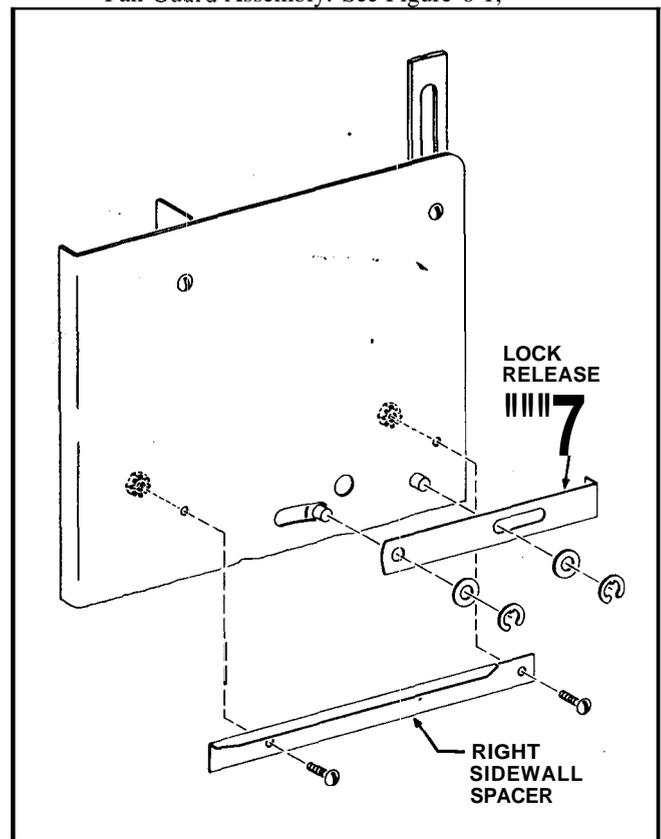

FIGURE 6-2
22. Remove two Retaining Rings, two Washers, and Lock Release Bar from the Right Sidewall. Retain the Lock Release Bar for use on the replacement Right Sidewall and ACMR Assembly. See Figure 6-2.
23. Remove two No.8-32 Nuts with Lockwashers, two Spacer Rollers, two No.8-32 x 5/8 RHS Screws and the Right Sdewall Spacer from the Right Sidewall. Retain the Right Sidewall Spacer for use on the replacement Right Sidewall and ACMR Assembly. See Figure 6-2.